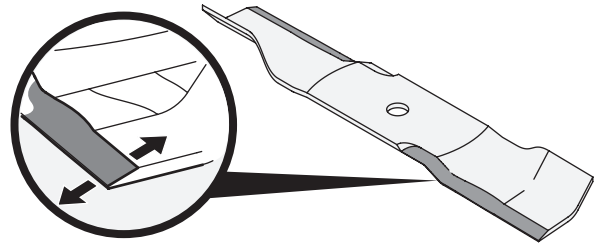

Figure 39
- To properly sharpen the cutting blades, remove equal amounts of metal from both ends of the blades along the cutting edges, parallel to the trailing edge, at a 25°-30° angle. Always grind each cutting blade edge equally to maintain proper blade balance (Figure 39).